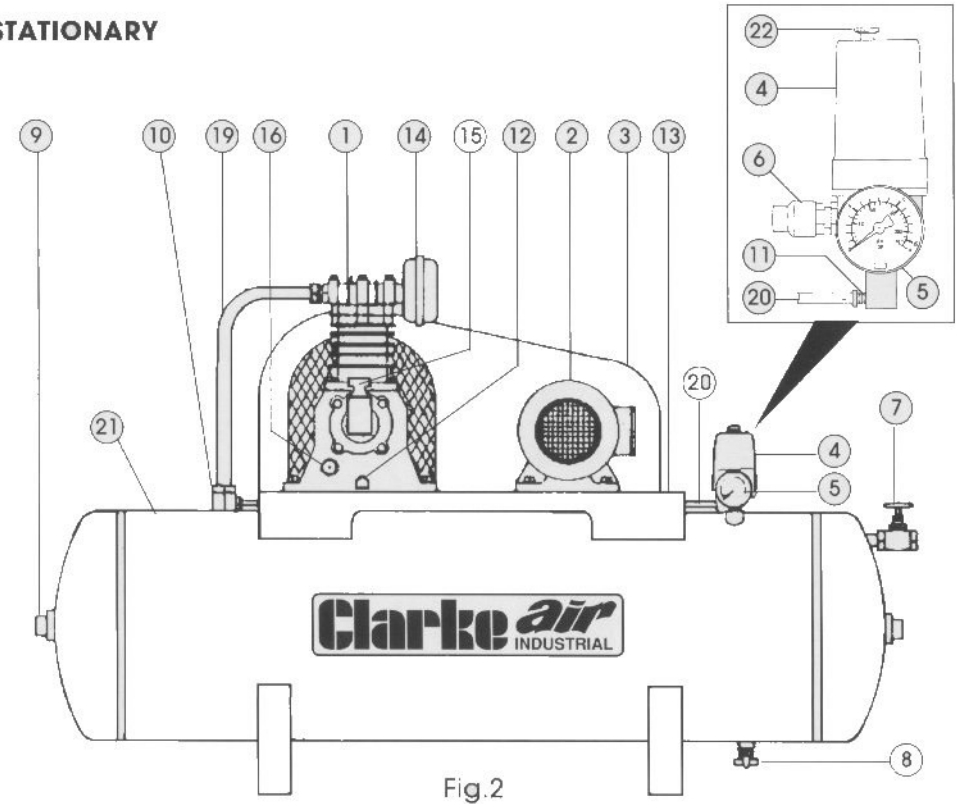

Fig.2
- (a) Automatic Control:- Pressure switch is off with button in depressed position (Fig.2, item 22).
3. Switch on pressure switch (lift knob). (Fig.2, item 22)
1. Switch off pressure switch (Push knob down). (Fig.2, item 22)
**WARNING:** THE SAFETY VALVE (ITEM 6, FIG. 2 & 3) FITTED TO THIS COMPRESSOR IS FACTORY SET AND MUST NOT BE ADJUSTED.